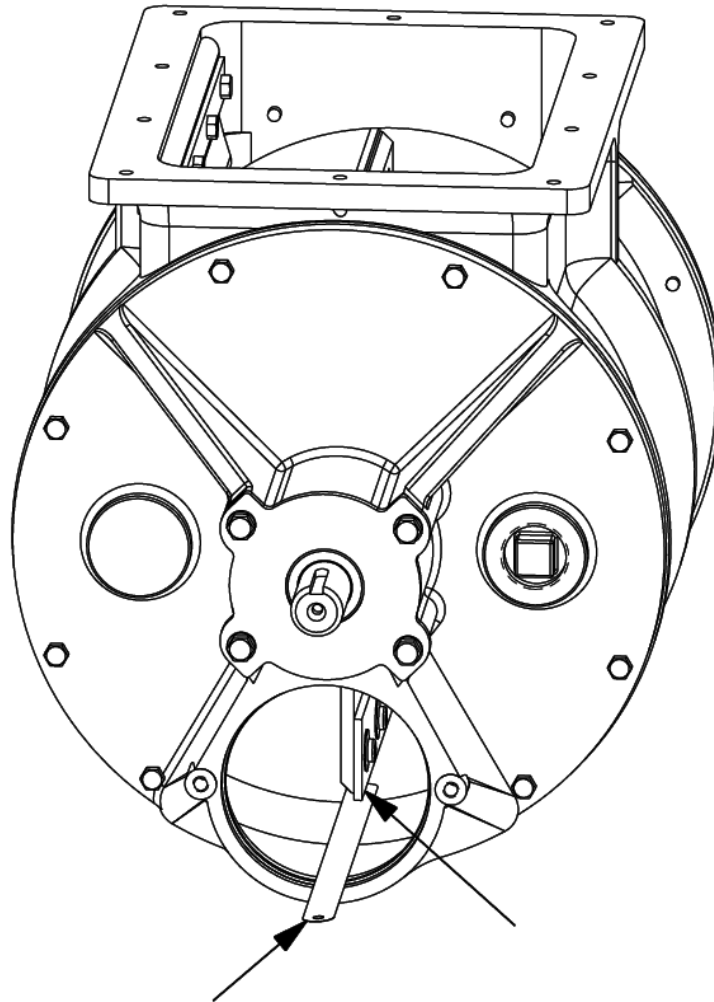

Figure 7-19: Outlet/bottom tip clearance
6. Blow-thru models have a different clearance requirement for the inlet and outlet side of the airlock, measurements for the 'bottom' should be taken from the outlet, as seen in **Figure 7-19**. Reference **Table 7-2** for tip clearance requirements. Rotate the rotor by hand and repeat the clearance measurement for each tip.